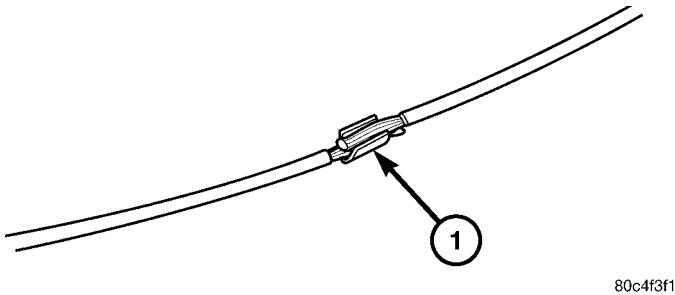

Fig. 14 SPLICE BAND
(1) Remove one-half (1/2) inch of insulation from each wire that needs to be spliced.
(2) Place a piece of adhesive lined heat shrink tubing on one side of the wire. Make sure the tubing will be long enough to cover and seal the entire repair area.
(3) Place the strands of wire overlapping each other inside of the splice clip (Fig. 14).